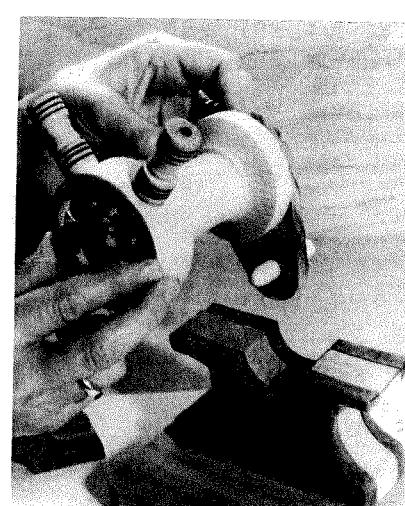

FIGURE 8-18
- 4** Set the chamber in the cradle, and draw a couple of registration marks so you know what goes where and how (Fig 8-18). Generally pencil mark the position